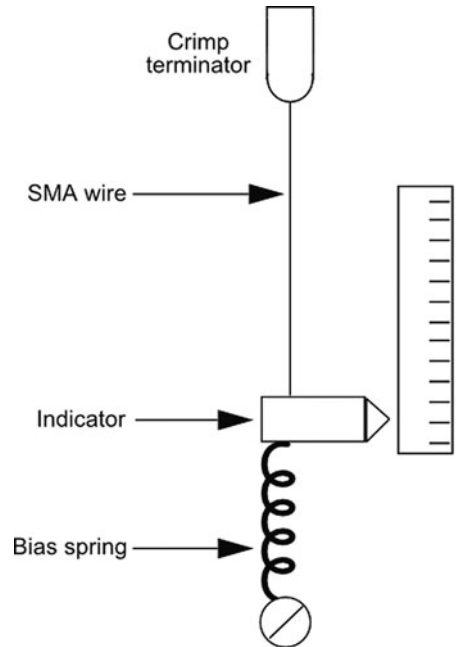

Figure 25-2 A bias spring or weight is required as a counterbalance on the SMA wire.
- It must be biased at the other end, like that in Figure 25-2. The bias can be a spring or even an unmovable part.